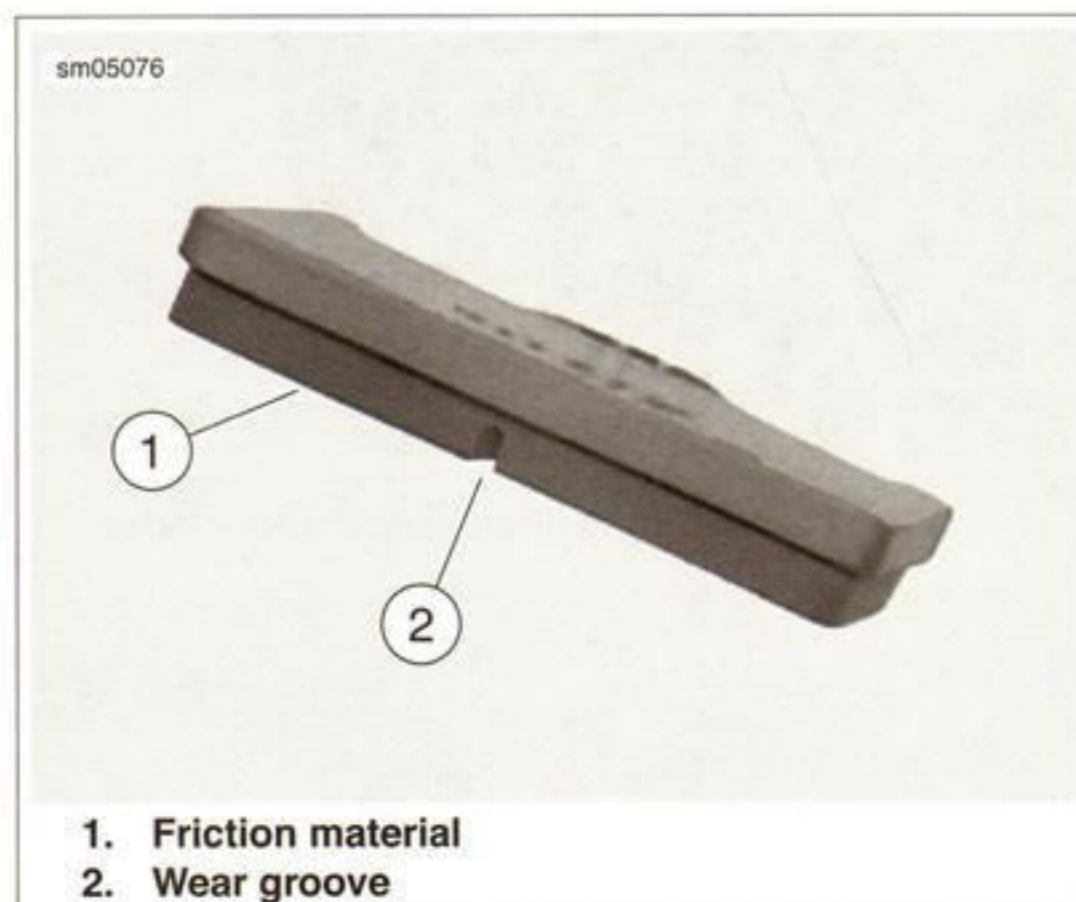

Figure 1-27. Brake Pad
See Figure 1-27. Inspect both front and rear brake pads for wear and damage. If the friction material (1) of a pad is worn past the wear groove (2) or if a pad is damaged, replace both pads as a set. Refer to Table 1-8.